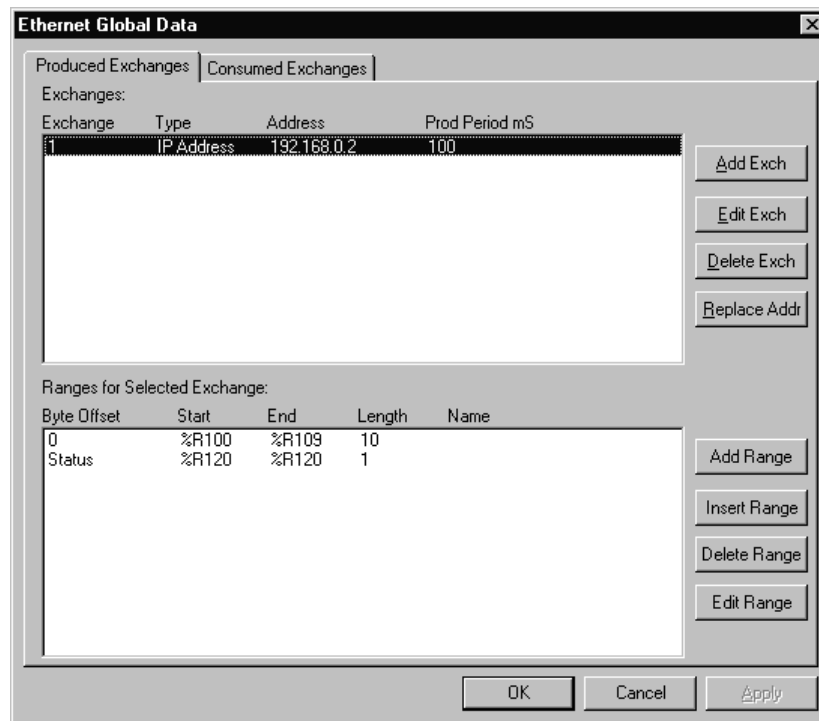

Figure 6.22 – Produced Exchange 1 with Status Block – Node 1
At this point, the Produced Exchanges tab in the EGD Configuration dialog should be as shown in Figure 6.22.
1. In the EGD Configuration dialog (Figure 6.22), select the **Consumed Exchanges** tab.